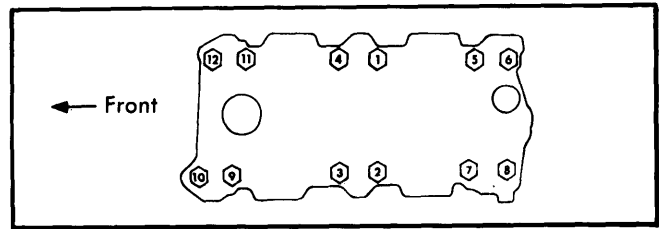

Fig. 1 Intake Manifold Tightening Sequence
3) Install manifold and torque bolts to specification in sequence shown in Fig. 1. Reverse removal procedure to complete installation.